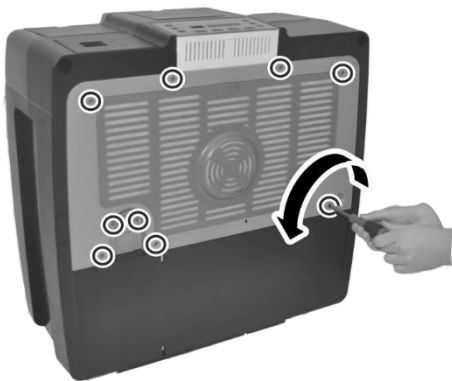

Fig. 32: Opening the rear
1. ➤ Loosen the screws on the rear panel of the housing (Fig. 32).